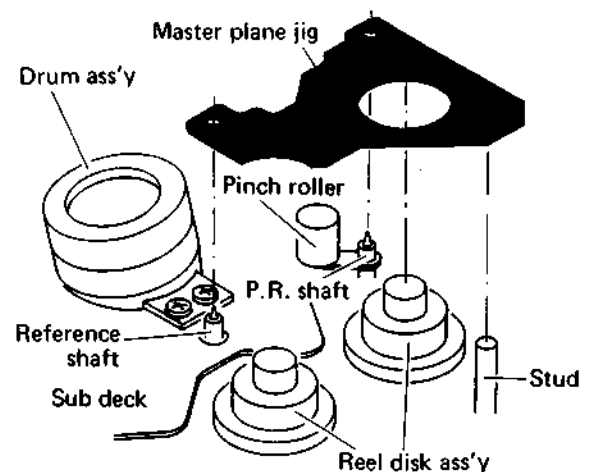

Fig. 5-17 Master plane jig
2. As shown in Fig. 5-17, position the master plane jig with respect to the reference shaft, pinch roller shaft and the stud.